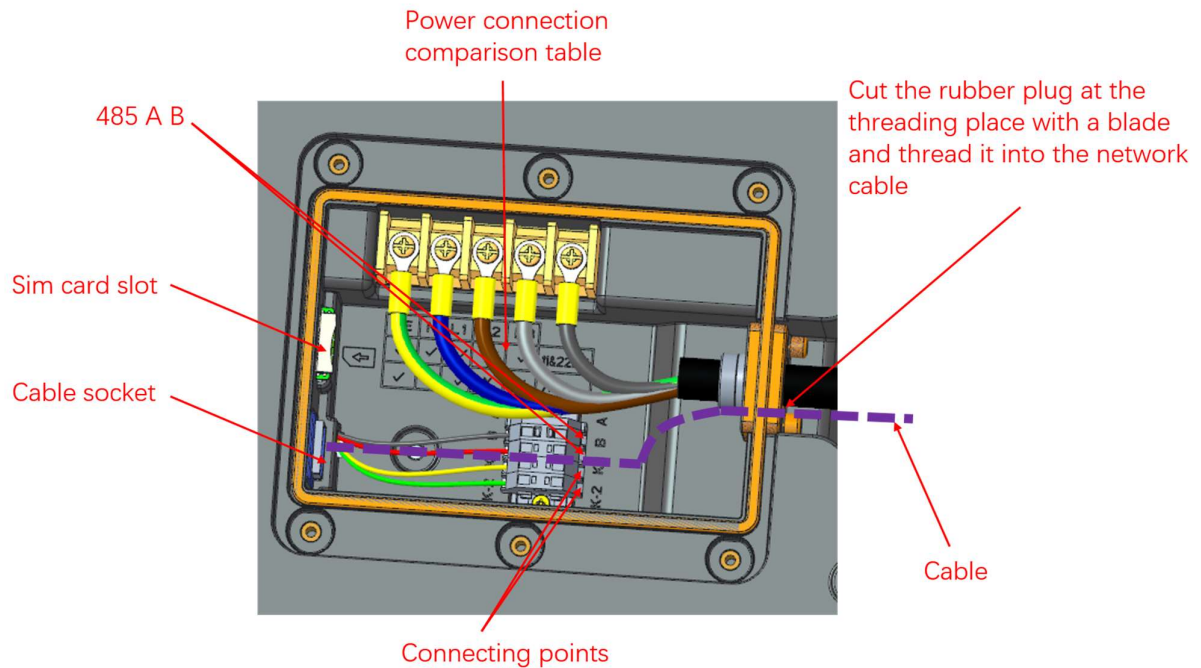

Figure A-13 22kW wiring diagram
7. (Optional) If an external shunt trip is required, the two connecting points reserved according to the indicated position of the product shall successively connect the shunt trip control circuit with a voltage not higher than 400VAC and a current not exceeding 1A in the control circuit, as shown in the following figure A-13: